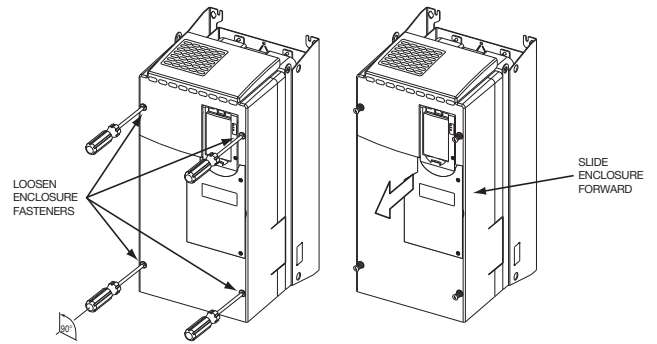

Fig. 19 — Removing Enclosure
3. Remove the enclosure. See Fig. 19.
7. Install the enclosure. See Fig. 19.
6. Install the enclosure. See Fig. 19.